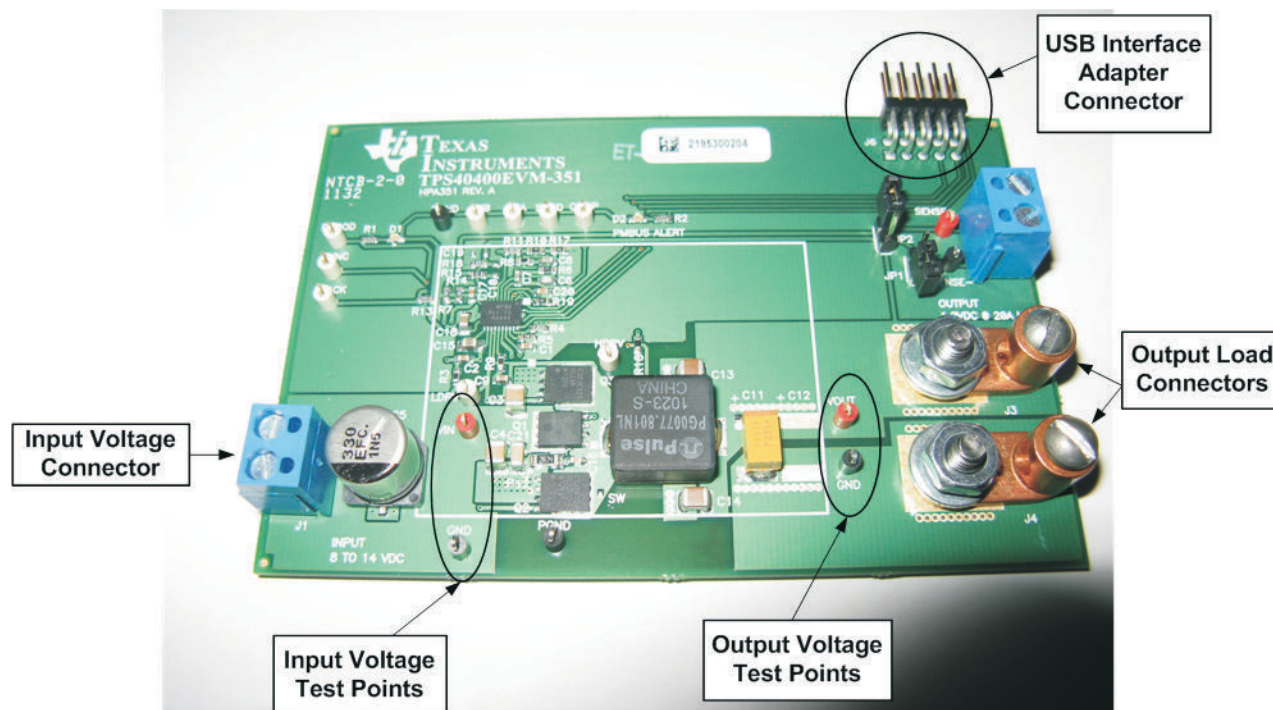

Figure 5-2. TPS40400EVM-351 Recommended Test Set Up
The input voltage source V_{IN} should be a 0-V to 14-V variable DC source capable of supplying 10 A_{DC}. Connect V_{IN} to J1 as shown in Figure 5-2.
Figure 5-2 is the recommended test set up to evaluate the TPS40400EVM-351. It is recommended to work at an ESD-safe workstation while testing the EVM.
1. Prior to connecting the DC input source V_{IN} , it is advisable to limit the source current from V_{IN} to 10 A maximum. Make sure V_{IN} is initially set to 0 V and connected as shown in Figure 5-2.
1. Set up EVM as described in Section 5.3 and Figure 5-2.